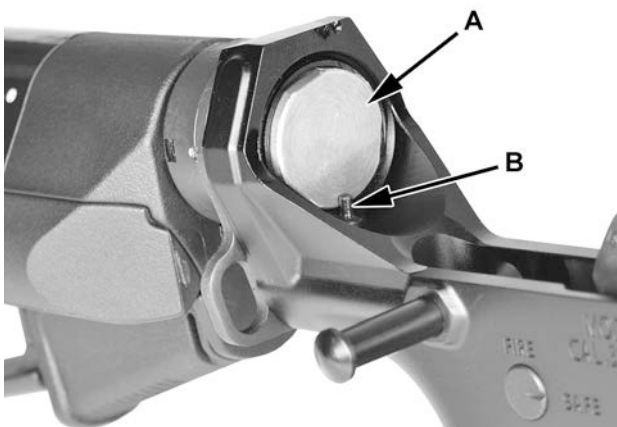

Figure 41
2. Hold the buffer in and press down on retainer to release buffer. See figure 41.